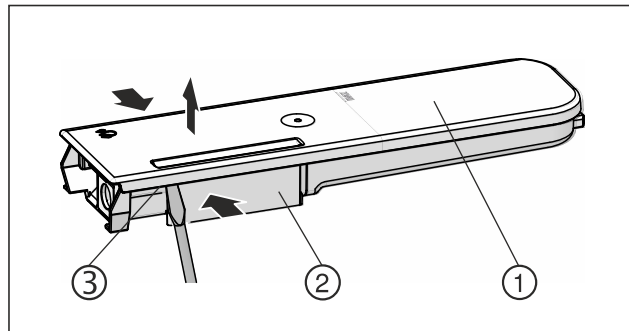

Fig. 174
- ▶ Push the water tanks Fig. 174 (2) together, leverage the cover Fig. 174 (1) carefully over the latching tabs Fig. 174 (3) and lift it up.
- ▶ Move the cover Fig. 174 (1) slightly forwards and back, and remove to the top.